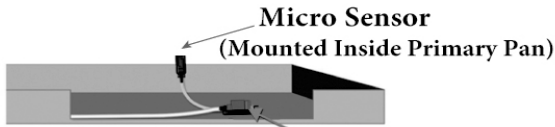

Figure 2 AG-3180E Secondary Pan Sensor
2. Using the double-sided tape provided with the AG-3180E, affix the mounting bracket in the lowest point of the (fig. 2) and snap the AG-3180E Secondary Pan Sensor into mounting bracket. Note: If not using a secondary drain pan, AG-3180E Secondary Pan Sensor may be mounted to the side of the HVAC unit using the double sided tape or mounting bracket (fig. 3).